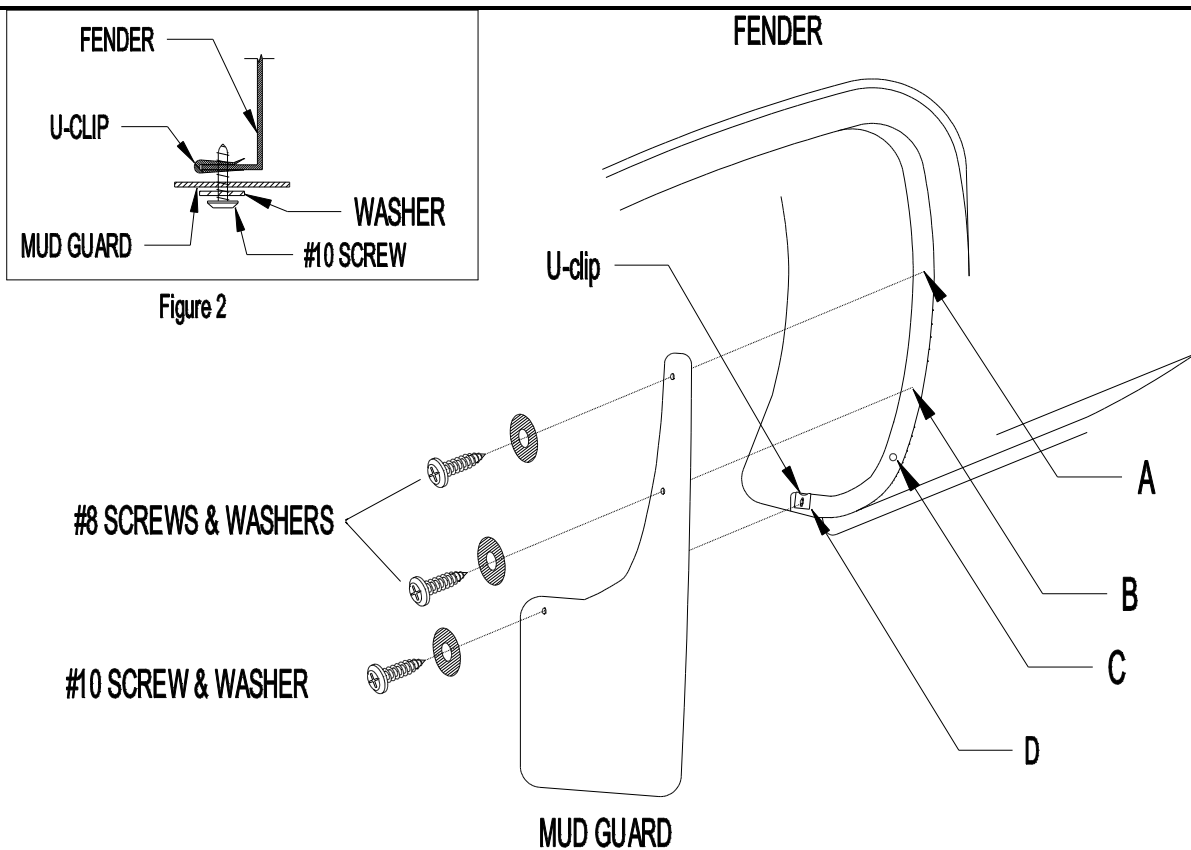

Figure 1
2. Remove existing fasteners from location A, B and D (Leave fastener in location C). See figure 1